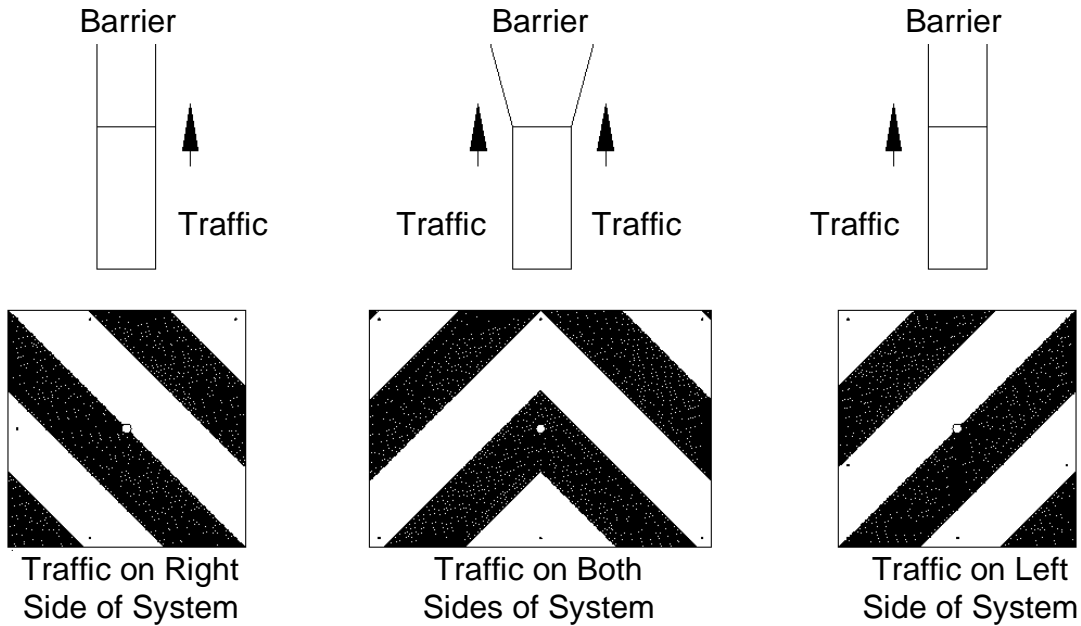

Figure 23
1. Ensure that the Nose Cover suits the site, see Figure 23 - Nose Cover Selection below. Refer to local standards and "Manual on Uniform Traffic Control Devices" (MUTCD) for nose.